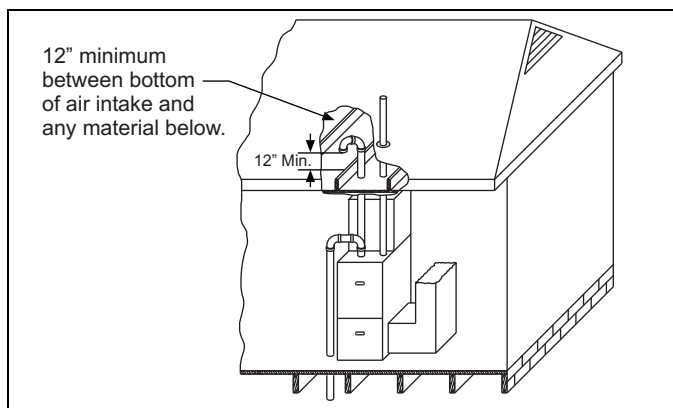

FIGURE 41: Attic and Crawl Space Combustion Air Termination
3. **VENTILATED COMBUSTION AIR:** Combustion air is supplied through a PVC or ABS pipe that is connected to the PVC coupling attached to the burner box and is terminated in a ventilated attic or crawl space. The combustion air and the vent pipes are not terminated in the same atmospheric zone. Refer to Figure 41 for attic and crawl space termination. Only the combustion air intake may terminate in the attic. The vent must terminate outside.
Refer to Figure 41 for required attic termination for the combustion air intake pipe. For attic termination, use two 90 elbows with the open end in a downward position. Be sure to maintain 12" (30.5 cm) clearance above any insulation, flooring or other material.